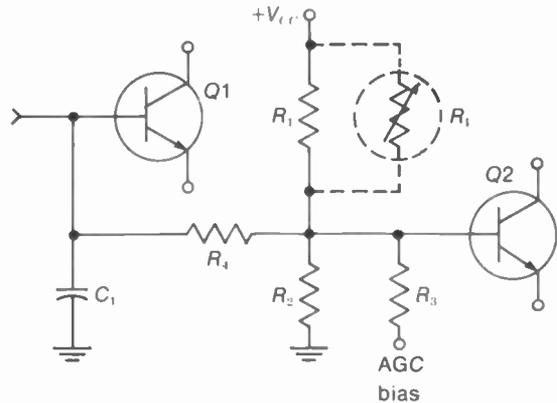

FIGURE 15-13 VARYING THE TRANSISTOR IF BIAS MANUALLY WITH  $R_1$  TO CHECK FOR AGC TROUBLE.
**Manual control of bias line for transistors.** Figure 15-13 shows  $Q_1$  and  $Q_2$  dc-coupled at the base to share the AGC bias. The function of the AGC voltage here is to vary the positive base bias. Positive forward bias at the base is provided by the  $R_1R_2$  divider from the supply voltage  $V_{cc}$ . If you connect a variable resistor  $R_1$  of about 25 k $\Omega$  across  $R_1$ , then  $R_1$  can be used to control the bias manually. This method does not require a bias box. If a normal picture can be obtained with  $R_1$  but not with the AGC alone, this shows trouble in the AGC bias.